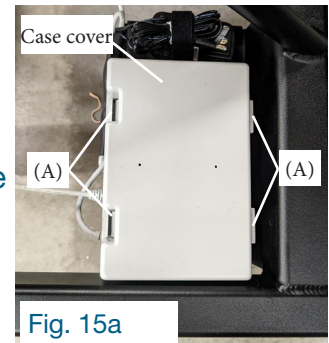

Fig. 15a
1. Remove the case cover by pressing on the (4) case clips (A) (fig. 15a).
6. Insert and clip the case cover onto the case. Make sure the cover is securely in place before using the unit (fig. 15a).